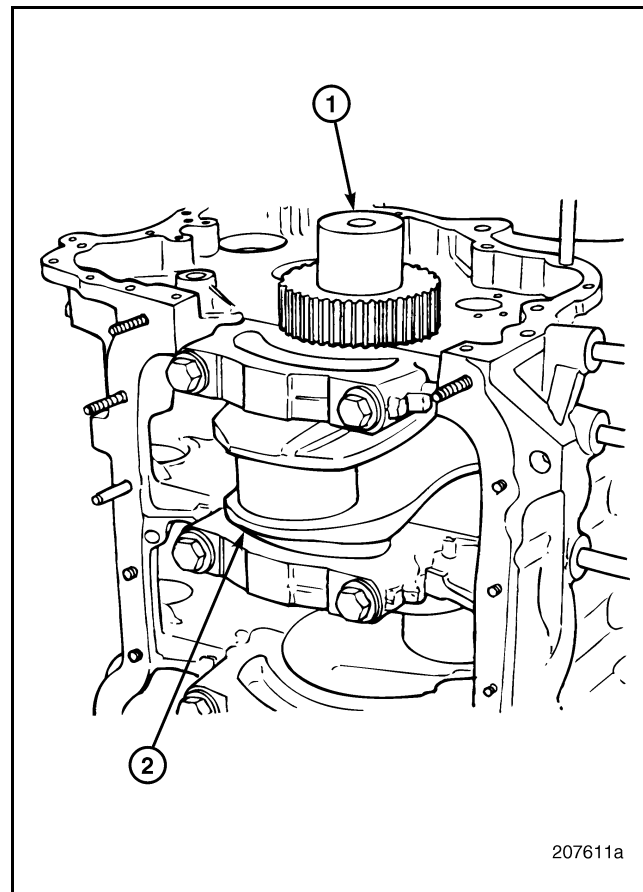

Figure 329 — No. 1 Cylinder (Crankshaft at BDC)
1. Rotate the crankshaft so that the journals for the No. 1 and No. 6 cylinders are at bottom dead center (BDC) (Figure 329).